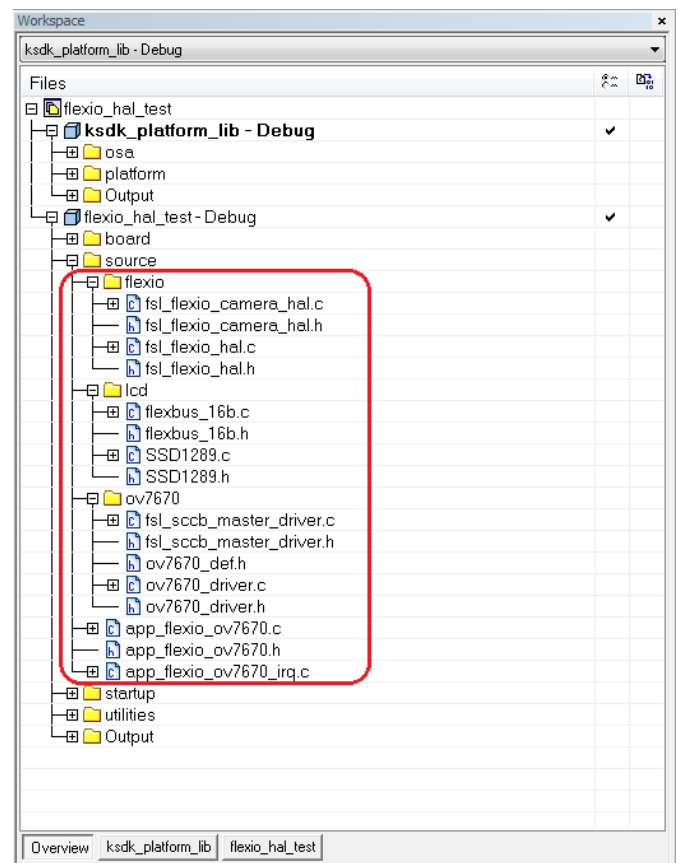

Figure 5 Workspace of flexio_camera_hal_test project
3. Add all the source files located in "<ksdk_root_dir>\platform\hal\src\flexio\test\src\flexio_camera_hal_test" into "flexio_hal_test" project. Do add the fsl_flexio_hal.h/c and fsl_flexio_camera_hal.h/c if they are not included into the ksdk_platform_lib. Then the project's workspace would be shown as the Figure 5.